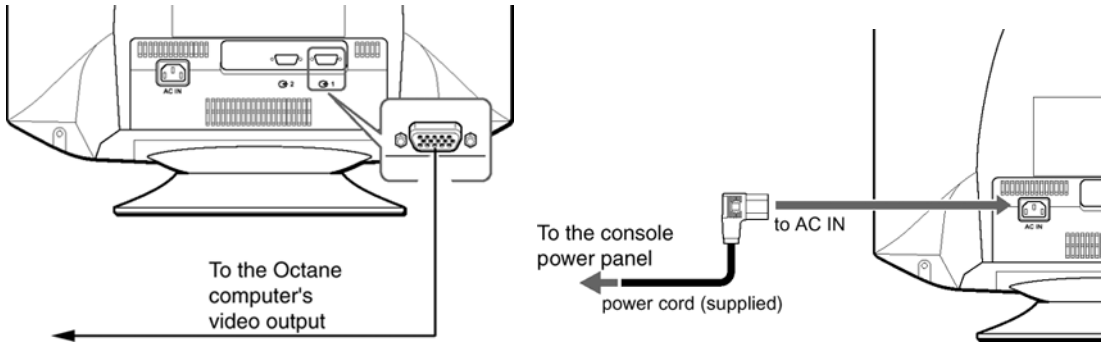

Figure 2-9 Monitor Connections (Sony Model GMD-F520 -- GE #2333243)
- 1.) With the monitor and computer switched off, connect the video signal cable to the monitor's video input (see Figure 2-9) and to the octane's video output.